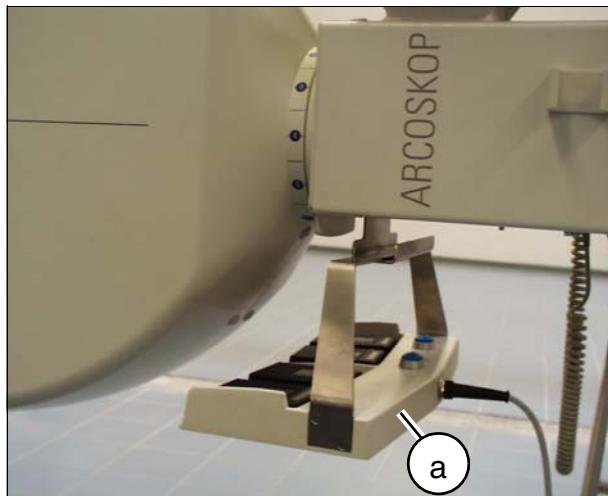
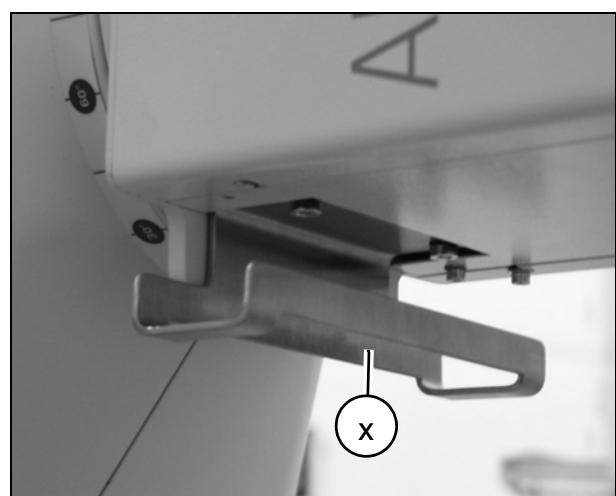

Fig. 10
Fig. 11
- When replacing the standard foot switch with the combination version (a/Fig. 10), install the new foot switch holder (x/Fig. 11) with 2 screws and washers.
- Run the cable through the opening and fasten it with the braid to the clamp, see Fig. 10.